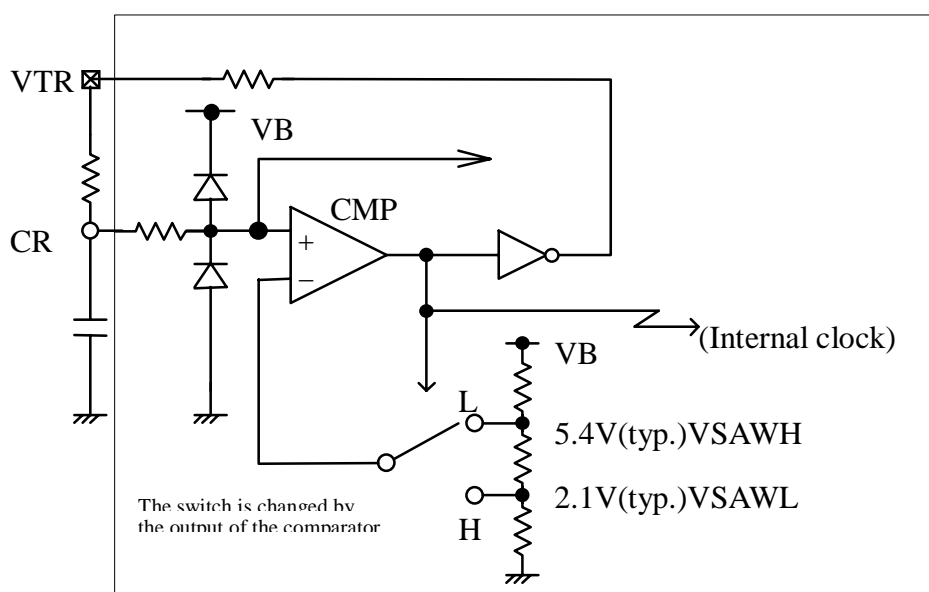

Fig. 4 Equivalent circuit around CR, VTR
- The frequency of the triangular wave is decided by a resistance and a capacitor which are connected at two terminals as shown in Fig. 4. Approximately, the frequency can be calculated by the following equation,